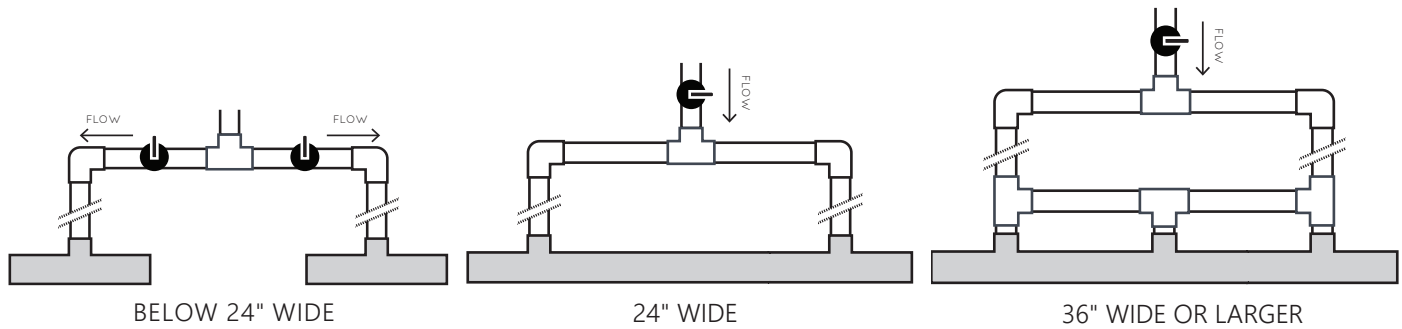

FIGURE 4
- b. Plumb with a single ball valve for flow regulation (FIGURE 4)
- b. Plumb the two inlets into a Tee fitting with a ball valve before the Tee (FIGURE 4)
- b. Scuppers with three inlets should be plumbed into a manifold to balance the flow. A ball valve should be plumbed inline before the manifold (FIGURE 4)